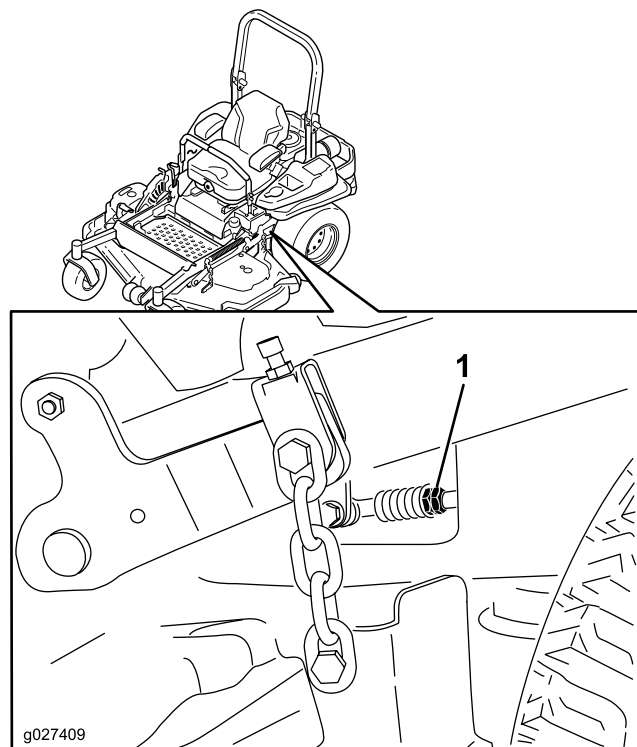

Figure 79
10. Adjust the pump-control-rod lengths by rotating the double nuts on the rod in the appropriate direction until the wheels slightly creep in reverse (Figure 79).